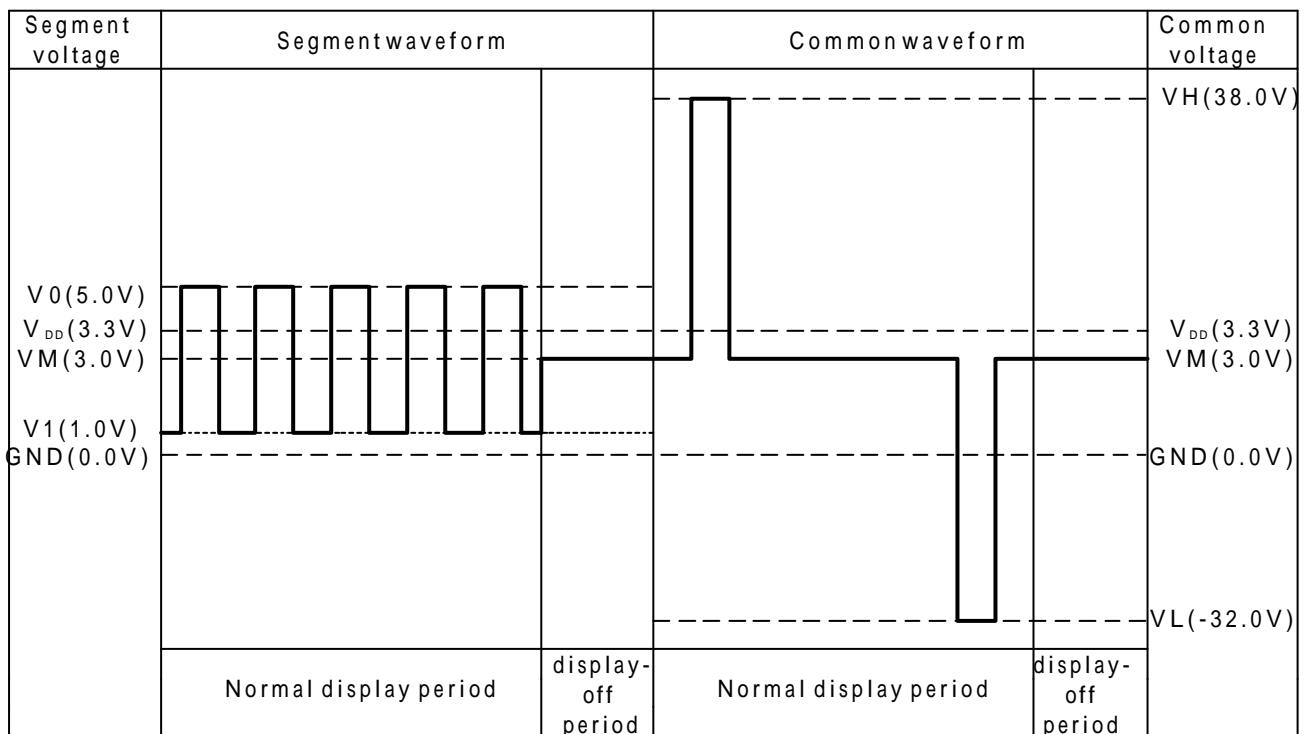

Figure 14. Signal voltage
4. The voltage of each signal is shown in figure 14